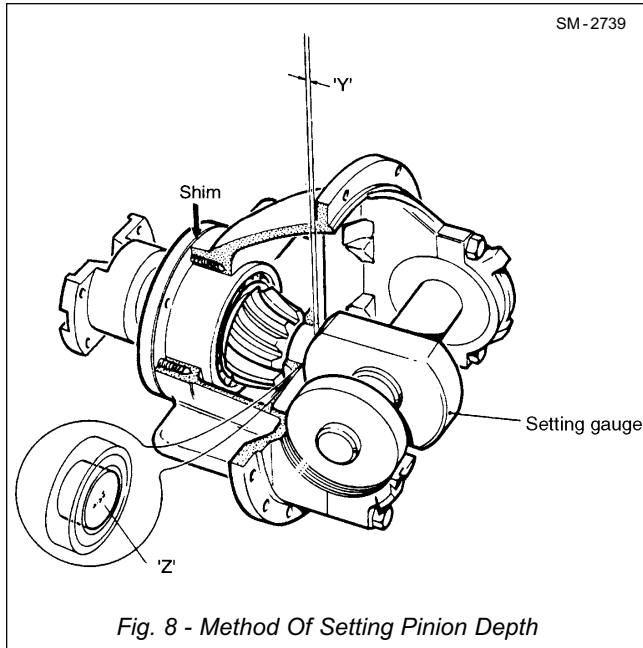

Fig. 8 - Method Of Setting Pinion Depth
1. If original crownwheel and pinion (11 & 37) are being refitted, place the already assembled pinion unit (24 to 38) into bevel casing (40), having fitted original shims (39) between pinion bearing housing (24) and bevel casing (40). See Fig. 8.
2. Fit pinion bearing housing setscrews and washers (32 & 31) to secure pinion bearing housing (24) to bevel casing (40) then tighten to 180 - 200 lbf ft (244 - 271
a) Insert shims (39) of 0.025" (0.6 mm) nominal thickness between pinion bearing housing (24) and bevel casing (40).
b) Fit pinion bearing housing setscrews and washers (32 & 31) to secure pinion bearing housing (24) to bevel casing (40) then tighten to 180 - 200 lbf ft (244 - 271 Nm).
c) Assemble setting gauge into bevel casing (40) as shown in Fig. 8 and secure with bevel straps (49).